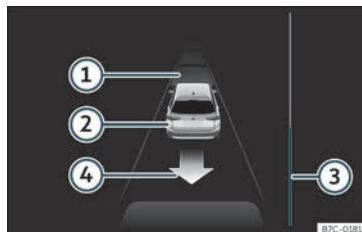

Fig. 237 On the instrument panel display: exit a parallel parking space.
- Reverse until the continuous ParkPilot signal sounds; **OR:** reverse until the instrument panel display shows the forward indication. The progress bar >>> **Fig. 237**  indicates the distance to cover >>> page 288.